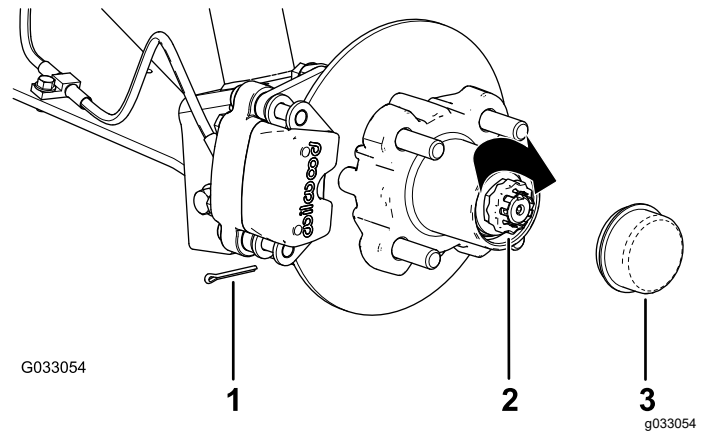

Figure 30
8. Install the retainer over the nut and check the alignment of the slot in the retainer and the hole in the spindle for the cotter pin (Figure 30).
9. Install the cotter pin and bend each leg around the retainer (Figure 30).
10. Install the dust cap onto the hub (Figure 30).